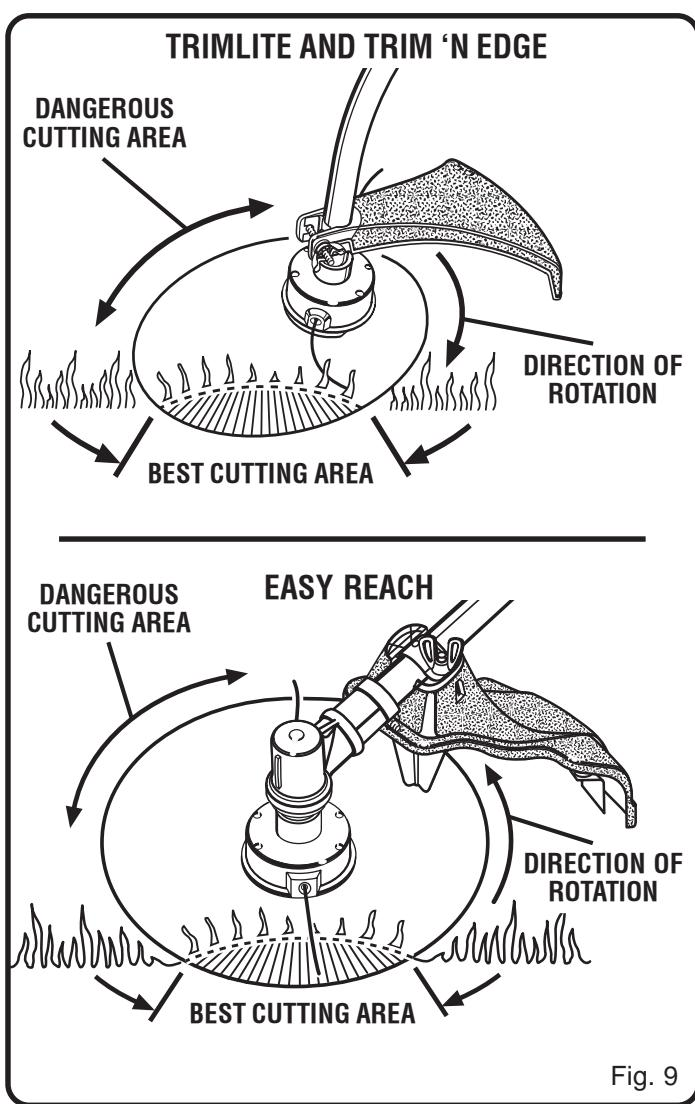

Fig. 9
See Figure 9.
- The curved shaft trimmer cuts when passing the unit from right to left. The straight shaft trimmer cuts when passing the unit from left to right. This will avoid throwing debris at the operator. Avoid cutting in the dangerous area shown in *Figure 9*.